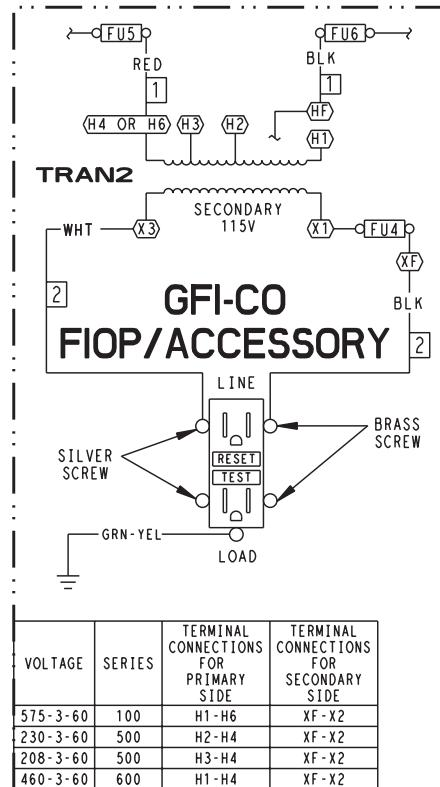

Fig. 4 — Transformer/GFI-CO Wiring
6. See Fig. 4 for transformer and GFCI (ground fault convenience interrupter) wiring. The wiring connections are already made at the transformer. Connect the black wire from the transformer secondary fuse connection TRAN2-XF to either brass screw on the GFI-CO. Connect the white wire from TRAN2-X3 to either silver screw on the GFI-CO. Connect the green/yellow ground wire from the GFI-CO to the unit ground near the GFI-CO. The 00EFN900001700A kit is factory wired for 460-v applications and the 00EFN900002100A kit is factory wired for 575-v applications. Verify that the correct primary connections are made. See Fig. 4. For applications using the 00EFN900001700A kit at 230 v or 208 v, one transformer primary wiring change is required. For 230-v applications, move the H1 primary wire to H2. For 208-v applications, move the H1 primary wire to H3.